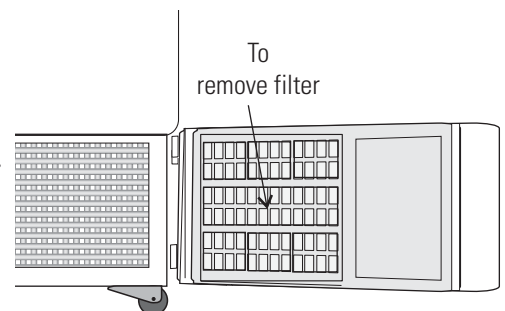

Figure 4-1. Grille with Filter Location
2. Locate the grille on the door. See Figure 4-1. Grasp the middle of the grille material and gently pull out to remove.